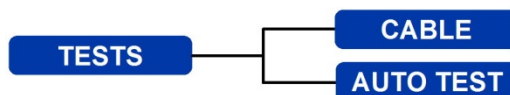

Fig 15 Tests menu map - Ethernet testing (1)
(1) When a SignalTEK NT Remote Unit is directly connected but no active network is detected, the home screen information bar will read 'Ethernet'. When the TESTS icon is selected, the Ethernet tests shown in the menu map at Fig 15 are available.